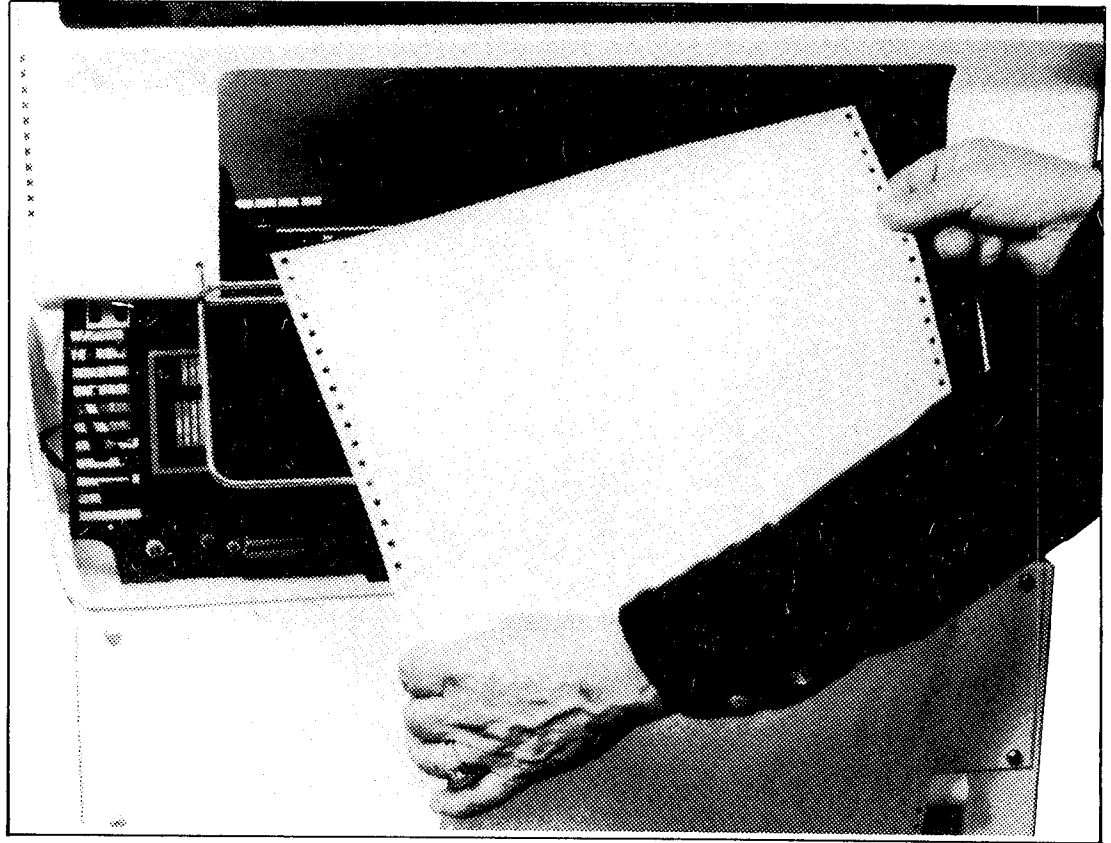

Figure 4. Paper Loading
- With printer cover open, insert paper from the rear through opening in cover (Figure 4).